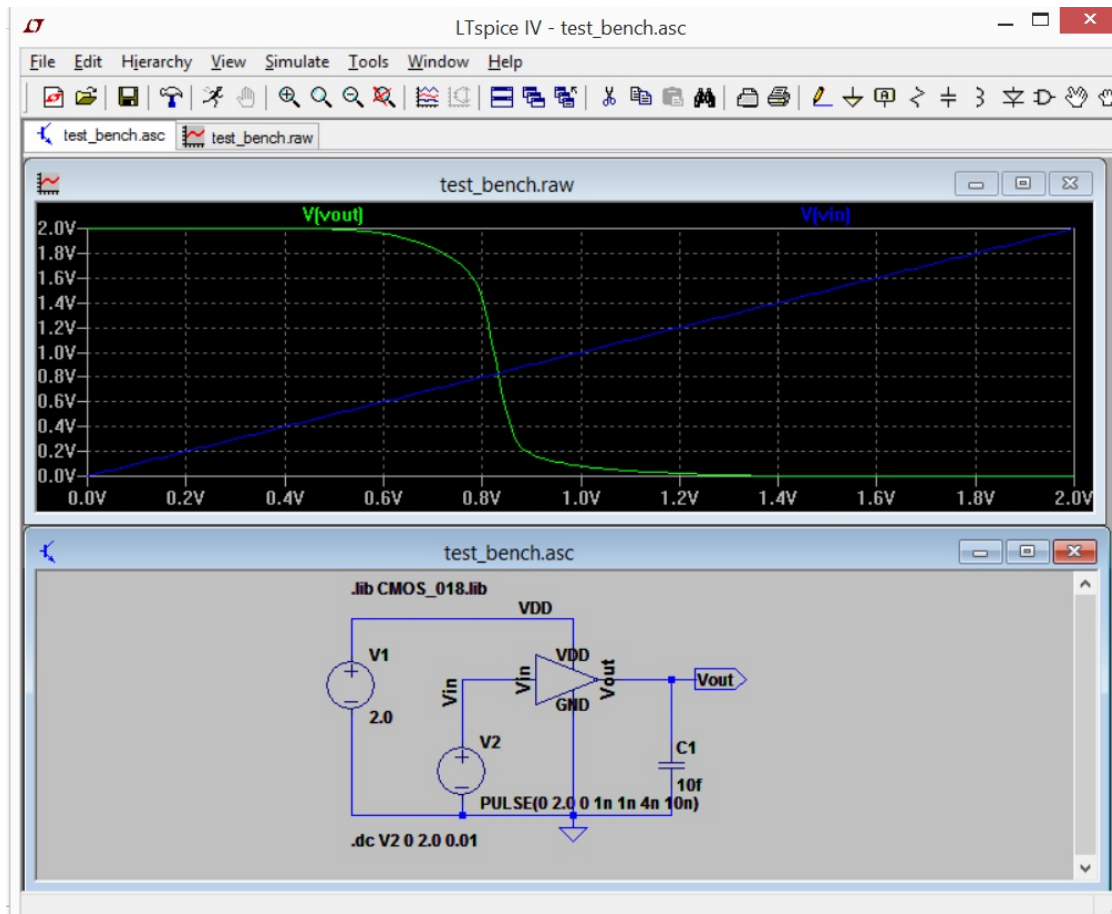

Figure 20. Waveforms and the test bench
- H. Move your mouse over to the schematic window, and then click the wires labeled with **Vin** and **Vout**. The waveforms of Vin and Vout display on the waveform viewer as shown in Figure 20.